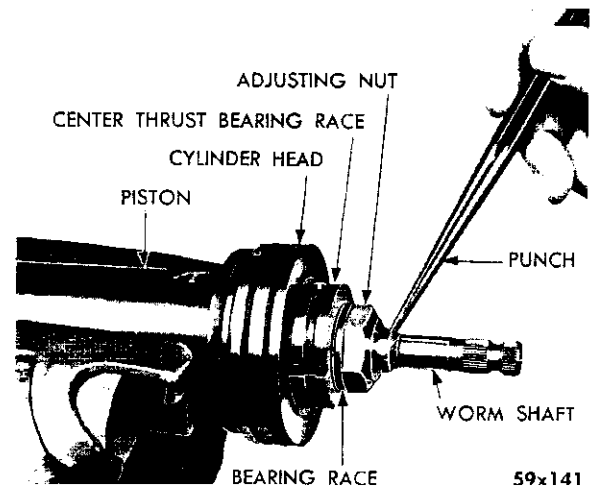

Fig. 49—Staking the Worm Shaft Bearing Adjusting Nut
(6) Stake the upper part of the worm shaft adjusting nut into the knurled area of the shaft as follows:
- a. Hold a $\frac{1}{4}$ inch flat end punch on the center line of the worm shaft and perpendicular to the worm shaft and at a slight angle to the nut flange (Fig. 49).